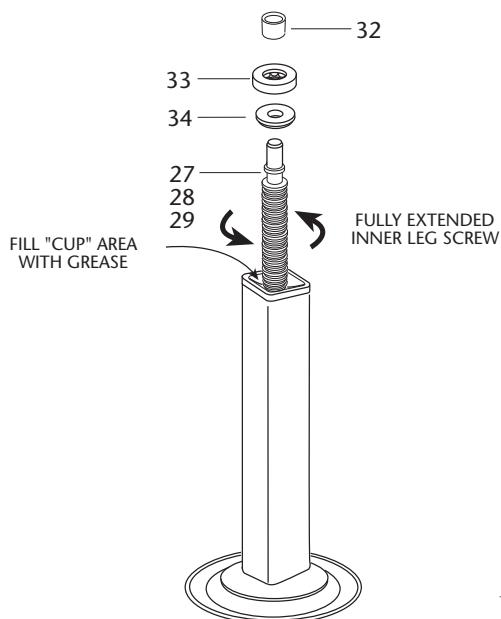

Figure 8
- Rotate the lift screw counter-clockwise until it is fully extended, then fill the "cup" area of the lift nut with grease as shown in **Figure 8**.